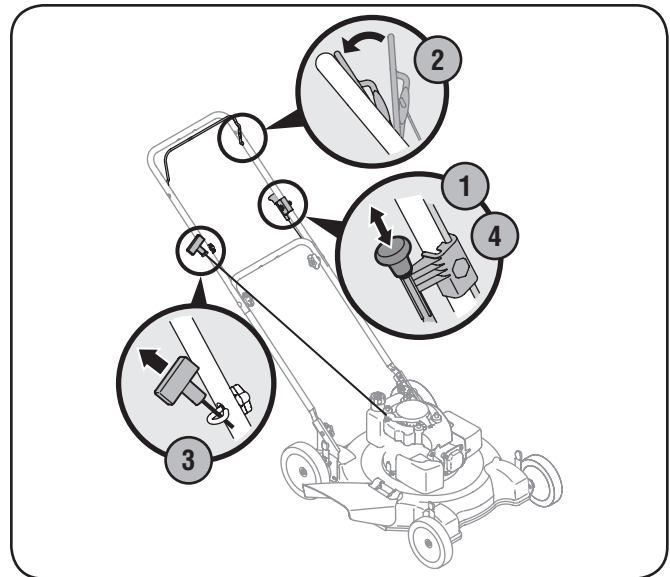

Figure 5-1
1. Pull out the choke knob located on the left side of the upper handle. See Fig. 5-1.
3. Pull the recoil starter lightly until resistance is felt, then pull rapidly to overcome compression, prevent kickback, and start the engine. Repeat if necessary. See Fig. 5-1.